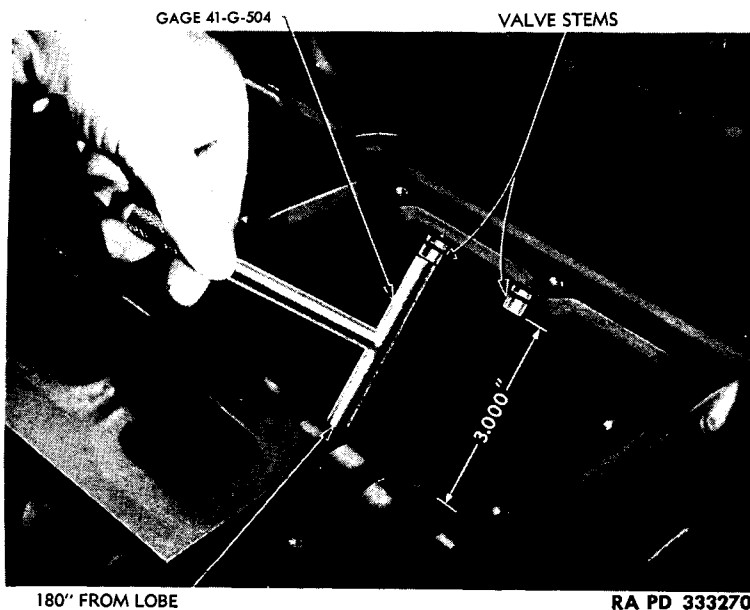

Figure 44 — Checking Valve Stem Length
(1) **CHECK VALVE STEM LENGTH.** With No. 1 cylinder intake valve in valve guide, check distance from bottom end of valve stem to heel of lobe on camshaft, using valve stem length gage (41-G-504) (fig. 44). This distance should be exactly 3 inches. Check gage before using. If tool will not slide freely between lower end of valve stem and heel of camshaft lobe, notify ordnance personnel.